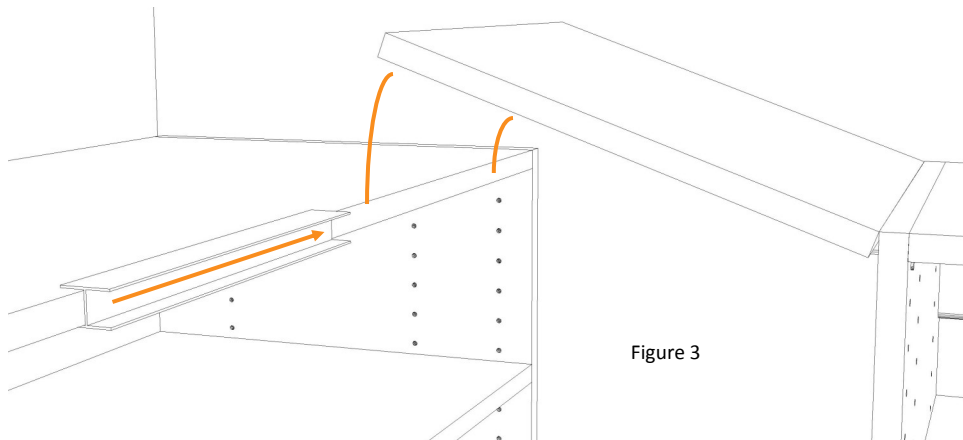

Figure 3
7d. Place the correct size shelf over the (4) EQ clips and pull down firmly as show in figure 3.
8c. Repeat steps 8a-8b for each Back Panel until all Back Panels are in place as show in figure 3.
9c. Repeat step 9b until all wedgerail covers are attached as shown in figure 3.
11b. Repeat for each section till all shelves are in unit as shown in figure 3.
12c. Place the Bridge Shelf on the EQ Clips and slide over the H-Rail joining the two shelves into one "L" shelf as shown in figure 3.
14a. Hanging Rods have two parts the Rod and the Rod Ends. First install the Rod Ends into desired hole location as shown in figure 3.
***This step is for Soft Close Slides only.** 15c. Prepare 2nd part of slide for installation on Partition. Remove the Plastic part at the back of slide using a flat tool like a flat head screw driver to have access to back hole as shown in figure 3. Do Step 15d. Then replace plastic part to back of slide.
18a. Using a sharp 3/16" drill bit, **carefully** drill through the same holes drilled in step 16 in face through drawer box as shown in figure 3.
20d. Place back wire of basket into hook on left and right slide as shown in Figure 3.
21c. Remove the (2) back screws from slide as shown in figure 3.
22c. Using the 5mm Allen wrench, and 10mm wrench, remove the board and front support from the friction slide units as shown in figure 3.
23c. Insert the slide assembly to the desired location and tighten the 4mm set screws with supplied hex key as shown in figure 3 & 4.